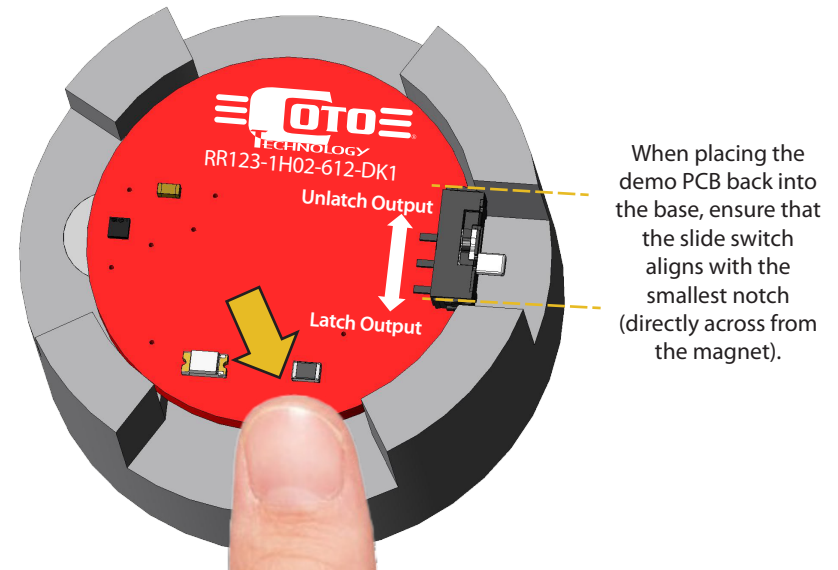

Figure 3: For easy removal/insertion of PCB from/into base, press down on bottom of PCB.
1. The round PCB containing the **RR123-1H02-612** is placed in a base (E) that has an activating magnet (B) below the sensor (A). The magnet provides the required magnetic field to activate the **RR123-1H02-612** and drive its output to GND, preventing the LED from being powered.
2. When the PCB is removed from the base (see Figure 3), the magnetic field will decrease at the **RR123-1H02-612**, causing its output to be connected to VDD and allowing current to flow to the Status LED (C), turning it ON. Placing the PCB back into the base will make the LED turn back OFF. Note: given the low sampling frequency (1Hz) of the **RR123-1H02-612**, the LED can take a second to turn ON/OFF.
3. The slide switch (D) on the right-hand side of the PCB controls the RR123-1H02-612's Latch Control Pin. When enabled (switch set to "Latch Output"), the **RR123-1H02-612** will "lock" the output in whatever state it is currently in, and it will stop responding to the presence or absence of a magnetic field. Once disabled (switch set to "Unlatch Output"), the **RR123-1H02-612** can once again respond to the presence/absence of a magnetic field. For more details on this functionality, please see sections **7.4** and **7.5** of the **RR123-1H02-612** Datasheet.